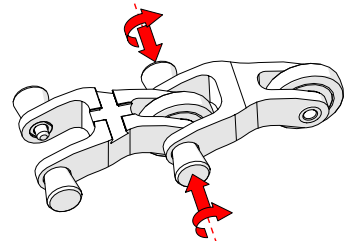

Fig. 80 - Align mounting holes
3. Twist the pins until they unlatch and extend into the hole of the connected component (Fig. 80).